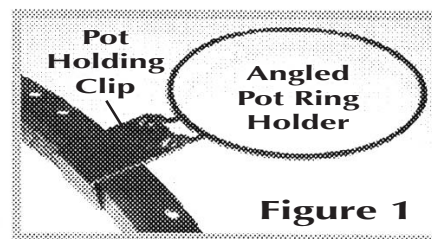

Figure 1
- Locate the two (2) half sections of the tree base platform. Bolt the halves together. **DO NOT TIGHTEN YET!**
- Insert the four (4) upright legs into the base sockets. Place pins in holes to secure.
- Locate the top platform and slide down over the top of the four (4) upright posts.
- Placement of rings, pots and plants should begin from bottom and work up. To attach angled pot ring holders to the half ring sets, use a pot holding clip (fig 1). To attach them to the tree base and the top platform, fit the ring so that the curved portion of the prong fits snugly OVER the wire frame of the tier (fig 2). Make adjustments laterally on each tier.